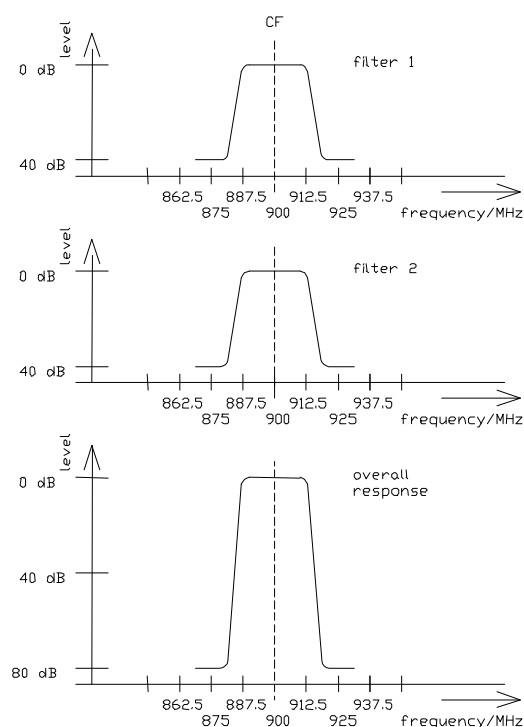

figure 1
In figure 1 we see that filter 1 and filter 2 are both set to a centre frequency (CF) of 900 MHz. The resulting overall response of the module is thus a 25 MHz band with a centre frequency of 900 MHz (\Rightarrow frequency range from 887.5 MHz to 912.5 MHz). The attenuation in the stop band of one filter was assumed to be 40 dB.